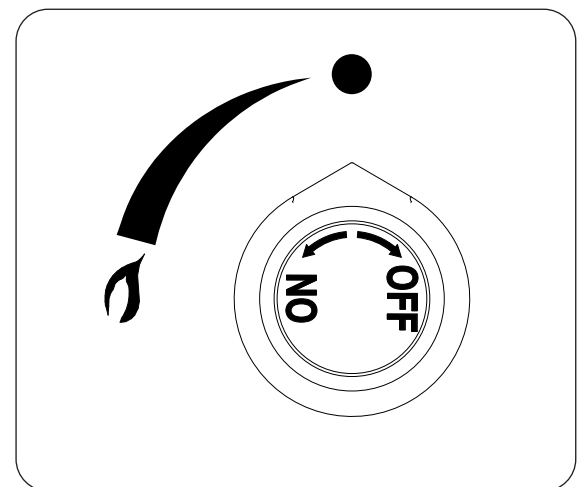

Fig. 43-2
4. **Once the flame is in position**, turn the gas control knob counter-clockwise to the **ON** position, depress, and hold for 15 seconds (see Fig. 43-2). Your burner should light within 5 seconds.
To extinguish your gas burner, turn the gas control knob clockwise to the **OFF** position (see Fig. 43-2). Be sure the control knob is turned fully off to avoid any gas leakage.